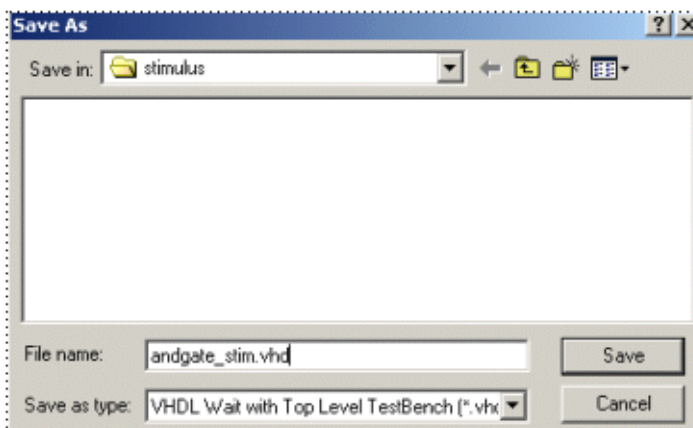

Figure 5-9. andgate\_stim.vhd
4. Select “VHDL Wait with Top Level Test Bench” in Files of Type and enter *andgate\_stim.vhd* for the file name, as shown in Figure 5-9.